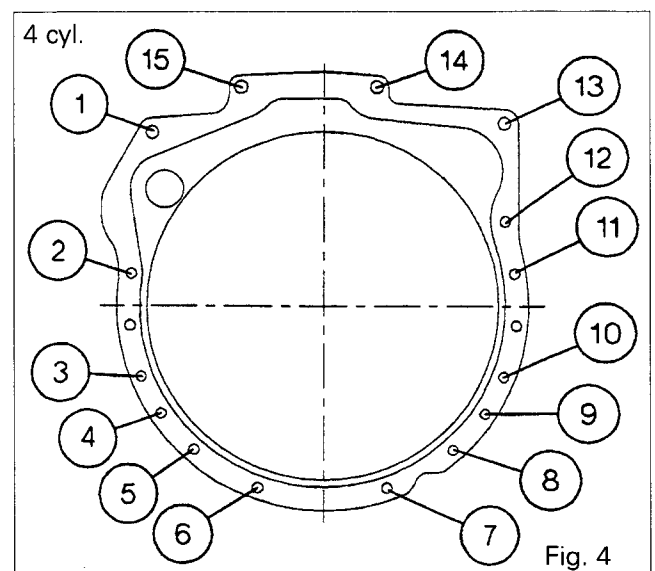

Fig. 4
Tighten the bolts (Figures 4 and 5):
21. Separate the gearbox from the rear axle (Fig. 4).